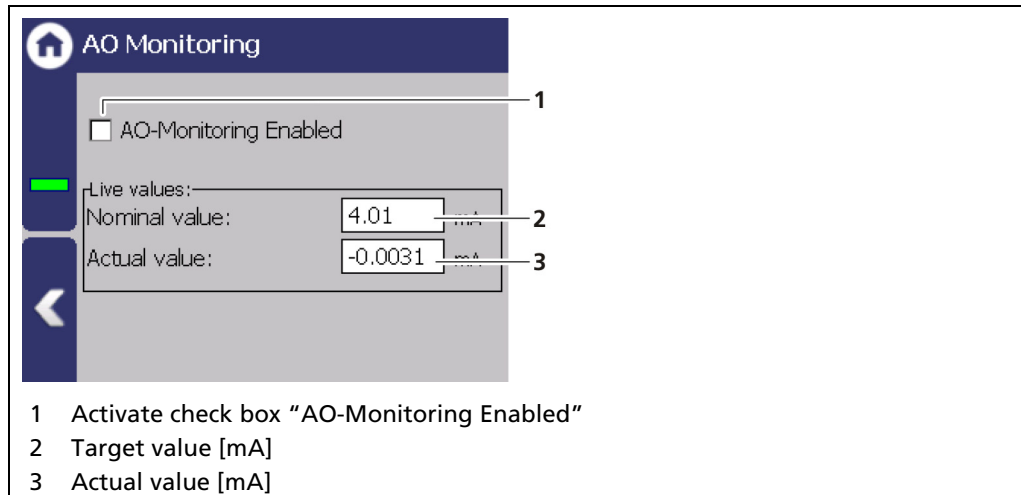

Fig. 116 Analog Output Monitoring
If “AO Monitoring” is activated (Fig. 116, item 1), the current output will be monitored. It is continuously monitored whether the current value flowing in the current loop is correct.